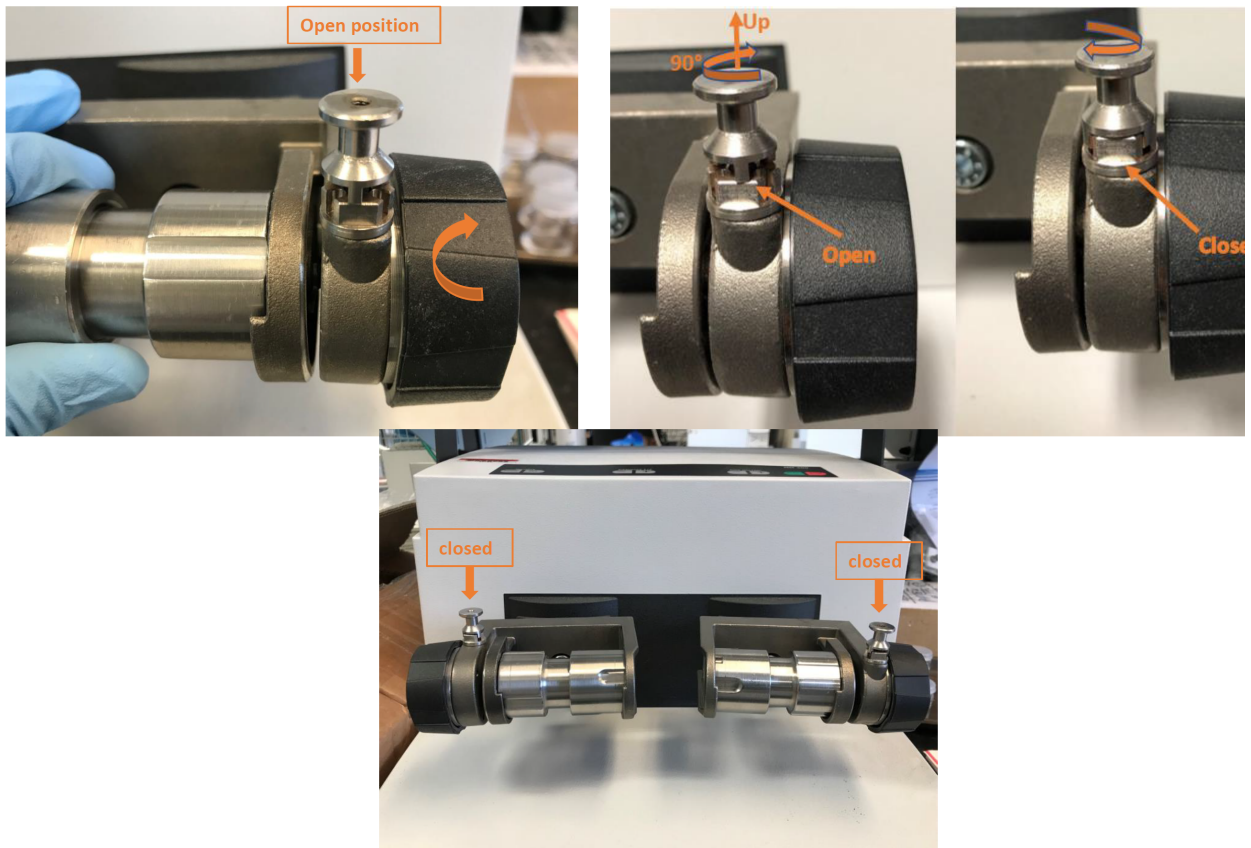

Figure 13. Retsch jar clamp
Place closed grinding jar horizontally in the clamps with the pin in open position. Verify the pin is in closed position (Figure 13) and tighten the clamps by turning the handle until the jar is securely tighten (hand tight is good). After the grinding jars are secured in the clamps, the pin is in the closed position and the clear cover is closed it is time to select grinding settings (Figure 13). Close lid and select desired program to run.
Press "PROG" to go through the list of programs already created (Figure 14, arrow A). Program 1 (A) is currently set for 12 min at 25 1/s. This setting is good for clay rich material. Softer sediments such as CaCO_3 typically need less time. It is important to only grind soft sediments in the agate jars and hard material should be ground in the shatter box (see XRD Sample Preparation Hard Rock). Press "START" to start a program (Figure 14, arrow D). After grinding cycle has completed turn knob counter clockwise and pull pin up and into its open position (Figure 13). Unscrew clamp and open jar to verify grind size. If sediment is still too coarse regrind.
After grinding is complete, rotate clamp counterclockwise and pull the pin up into the open position (Figure 13). When the pin is in the open position, unscrew the black knob until grinding jar is loose enough to remove from clamps. Pour powder onto weigh paper or directly into clean and labeled sample bag or sample vial.